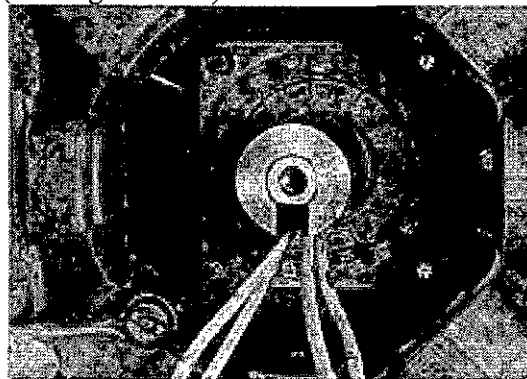

Figure 6-15
4. Remove the four mounting cap screws. (See Figure 6-15.)